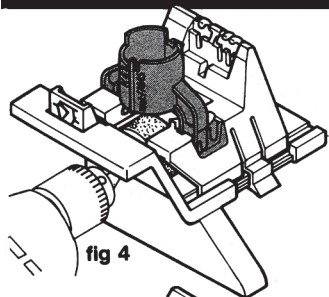

fig 4
- Hold the turret holder with the moulded 'HSS' marking **facing the drill**. Push the supporting legs into the 'HSS' slots on the carriage until they click into position (fig. 4).